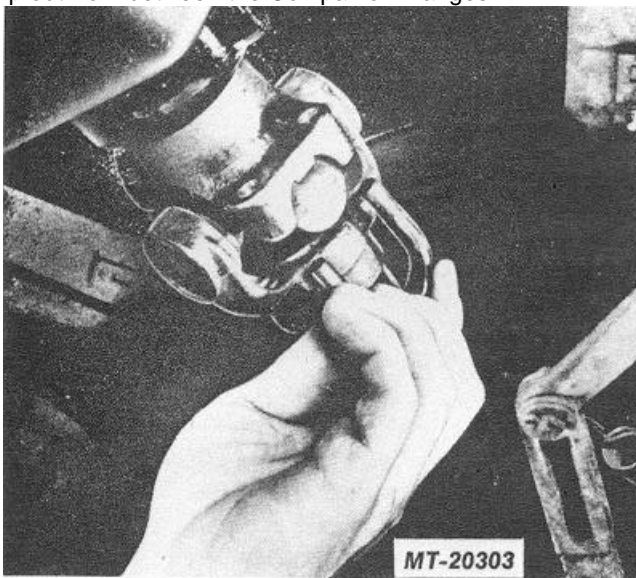

Fig. 14
2. Double End, Yoke Type (U-Bolt (Construction) (Fig. 14)